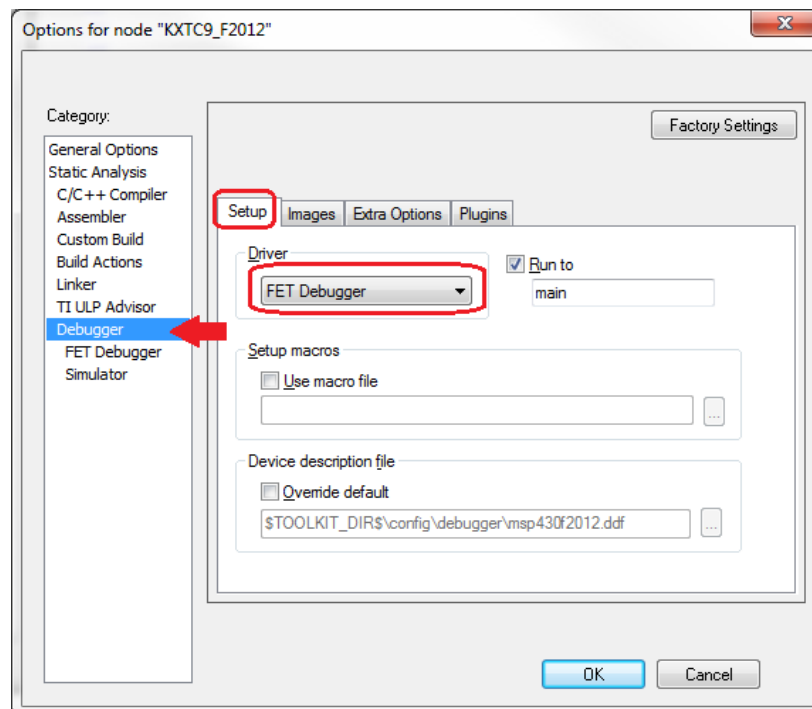

Figure 8: Select FET Debugger
5. Still in the Options window, select 'Debugger' category, select 'Setup' tab, and choose FET Debugger under **Driver** window (Figure 8).